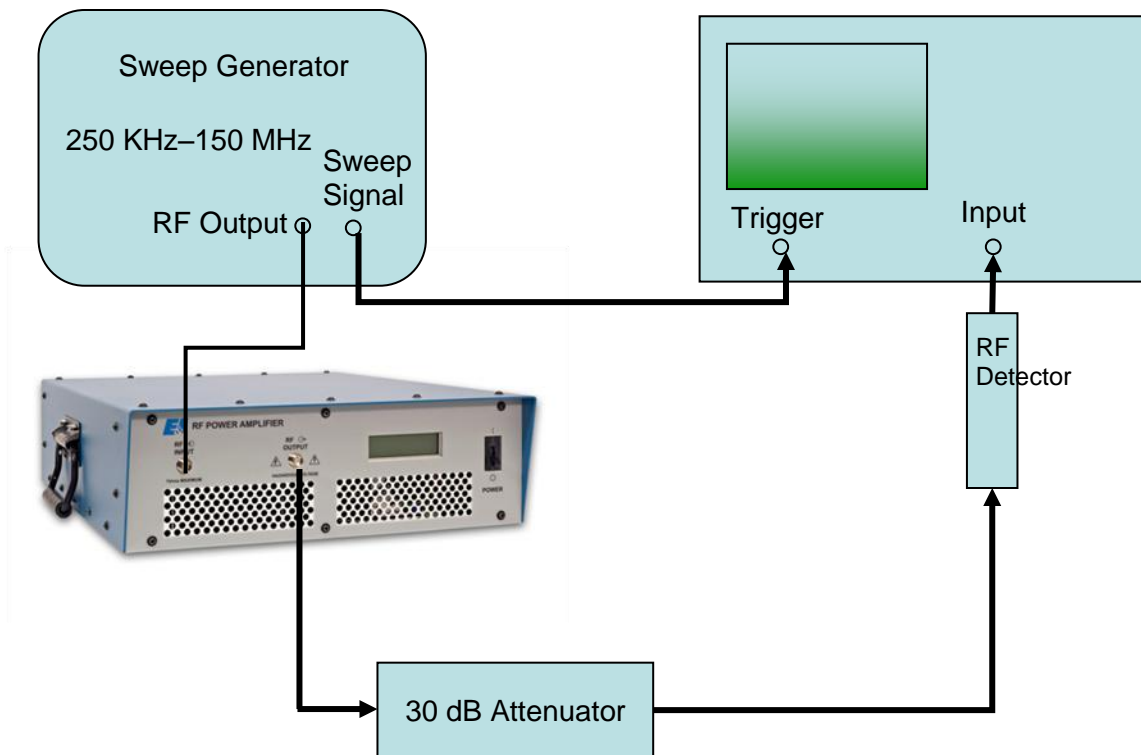

Figure 4-1. Gain Measurement
2. Connect the equipment as shown in Figure 4-1, then proceed as follows:
- g) Reconnect the 3100LA into the test set-up of Figure 4-1.